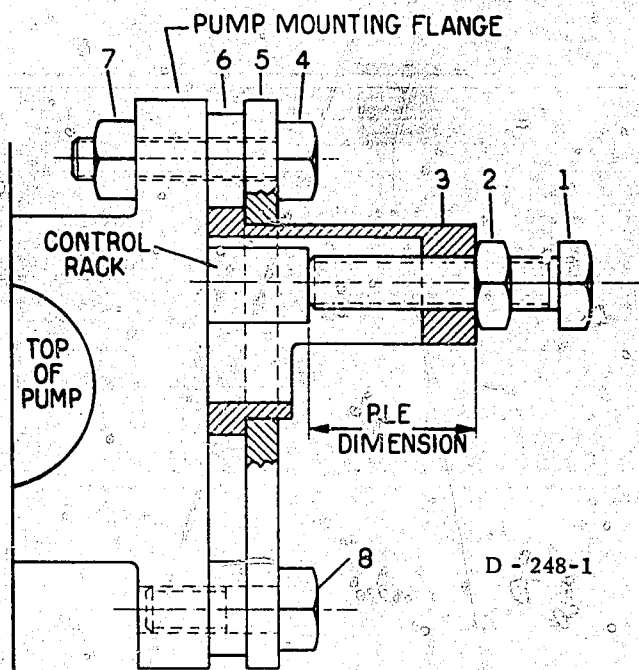

FIGURE 5 - APE 6BB "PLE" TOOL
2.1 To obtain the APE 6BB pump "PLE" dimension, a tool must be fabricated per Figures 5 through 7.
5. Install CP 7625 (5-3) in clamping plate (5-5) and assemble to pump per Figure 5.